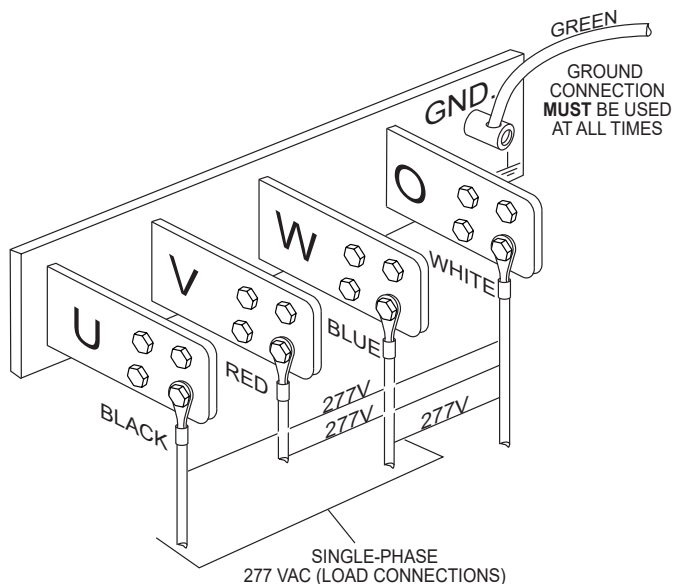

Figure 32. UVWO Terminal Lugs (Single-Phase 277-Volt Connections)
2. Connect the load wires to the UVWO terminals as shown in Figure 32.